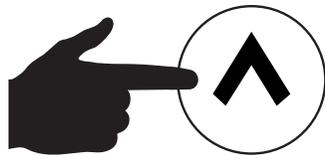

Figure 42. Page Up Button
- On the touch display, press the **Page Up button** (Figure 42) to scroll to **screen 3 of 7**.